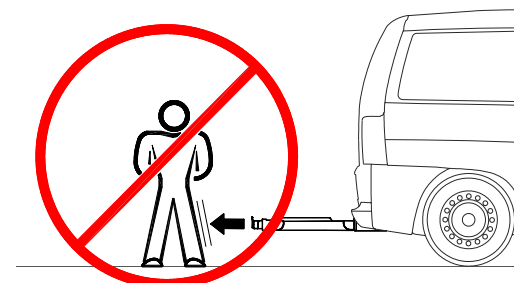

FIGURE 2-2: STAND CLEAR OF DEPLOYING PLATFORM
- Refer to **Figure 2-2**. Stand clear of lift when deploying platform.